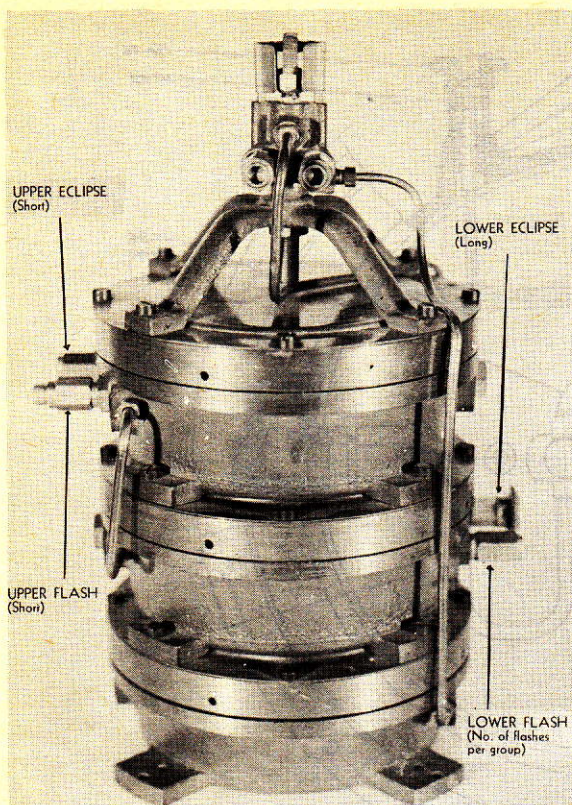

FIGURE 20-39.—130-mm. compound (interrupted quick) flasher-regulator.
F. 130-mm. interrupted quick or compound flasher-regulator.—This flasher produces an interrupted quick flash characteristic consisting of groups of rapidly recurring flashes and the groups separated by eclipses of equal duration. It differs from other flashers both in appearance and operational sequence in that it consists of three chambers stacked one on the other, the lower being a standard regulator and the other two being standard 130-mm. flashers. See also paragraph 20-7-15 (G) below. The normal characteristic is a series of 6 flashes of 0.2 second duration separated by an eclipse of 4.2 seconds duration. The middle chamber furnishes gas to operate 6 times at the prescribed characteristic at regular intervals to the upper chamber. The upper flasher receives this supply of gas and continues to operate until it is exhausted, then ceases to function until the new supply is received. There are four adjusting screws (see fig. 20-39). The lower flash screw controls the amount of gas fed to the upper flasher and ultimately the number of flashes per group. The lower eclipse screw controls the rate of flow of gas into the lower flasher and determines the long eclipse between groups. The upper flash screw controls the duration of the flash. The upper eclipse screw controls the duration of the eclipse between each flash. Assume the desired characteristic to be 0.2 second flash, 0.6 second eclipse six times, and 4.2 seconds eclipse, a period of 8.4 seconds. Adjust as follows:
- (1) Adjust the pilot burner for proper flame.
- (2) Remove the caps and turn the flash and eclipse screws on the lower flasher at least two full turns so as to provide a maximum flow of gas to the upper flasher.
- (3) Treat the upper flasher as an ordinary 130-mm. single flasher. Calculate the number of flashes per minute, i. e., $0.2 \text{ plus } 0.6 \text{ equals } 0.8 \text{ divided into } 60 \text{ equals } 75 \text{ flashes per minute}$. Set a preliminary characteristic of 1 second flash, 3 seconds eclipse. In making this adjustment listen for the click of the lower flasher which indicates the beginning of the flow of gas to the upper chamber. Time only the first two or three flashes since the amount of gas is rapidly depleted and there will be a lag in the rate of flash.
- (4) Now speed up the flash of the upper flasher to give 75 flashes per minute or 5 flashes in 4 seconds. At this point there will be a group of 10 to 12 flashes in a row. To reduce this to 6 as required, turn the lower flasher flash screw to the right until a group of 6 flashes is obtained.
- (5) Now adjust the lower flasher eclipse screw until the long eclipse is 4.2 seconds and the period is 8.4 seconds. A convenient check is 5 groups of 6 flashes every 42 seconds.